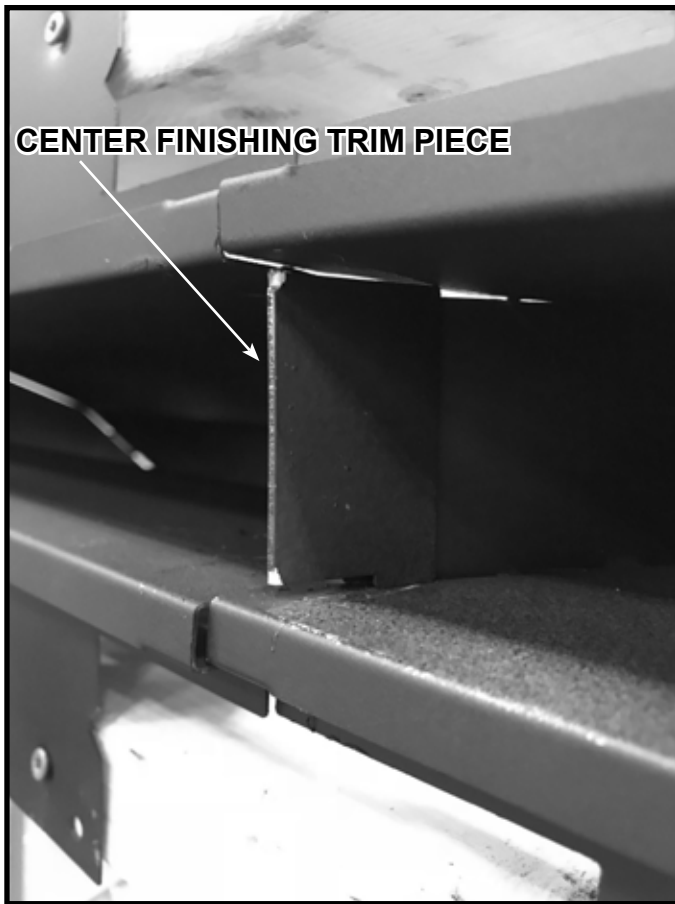

Figure 6.13 Insert Center Finishing Trim Piece
9. Insert the center finishing trim piece between the two plenums. See Figure 6.13 and 6.14.